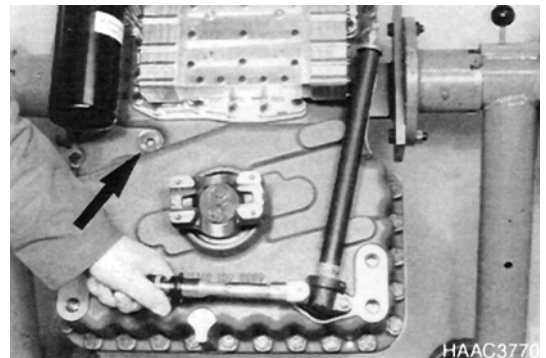

Figure 284
8. Install screw plug (Figure 284).